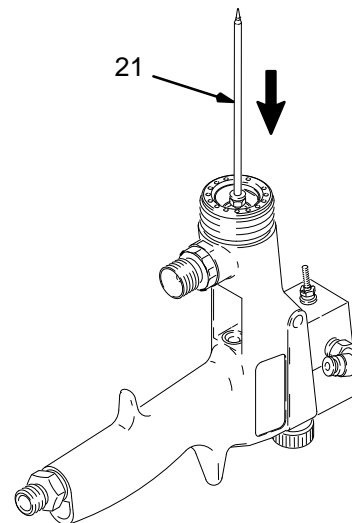
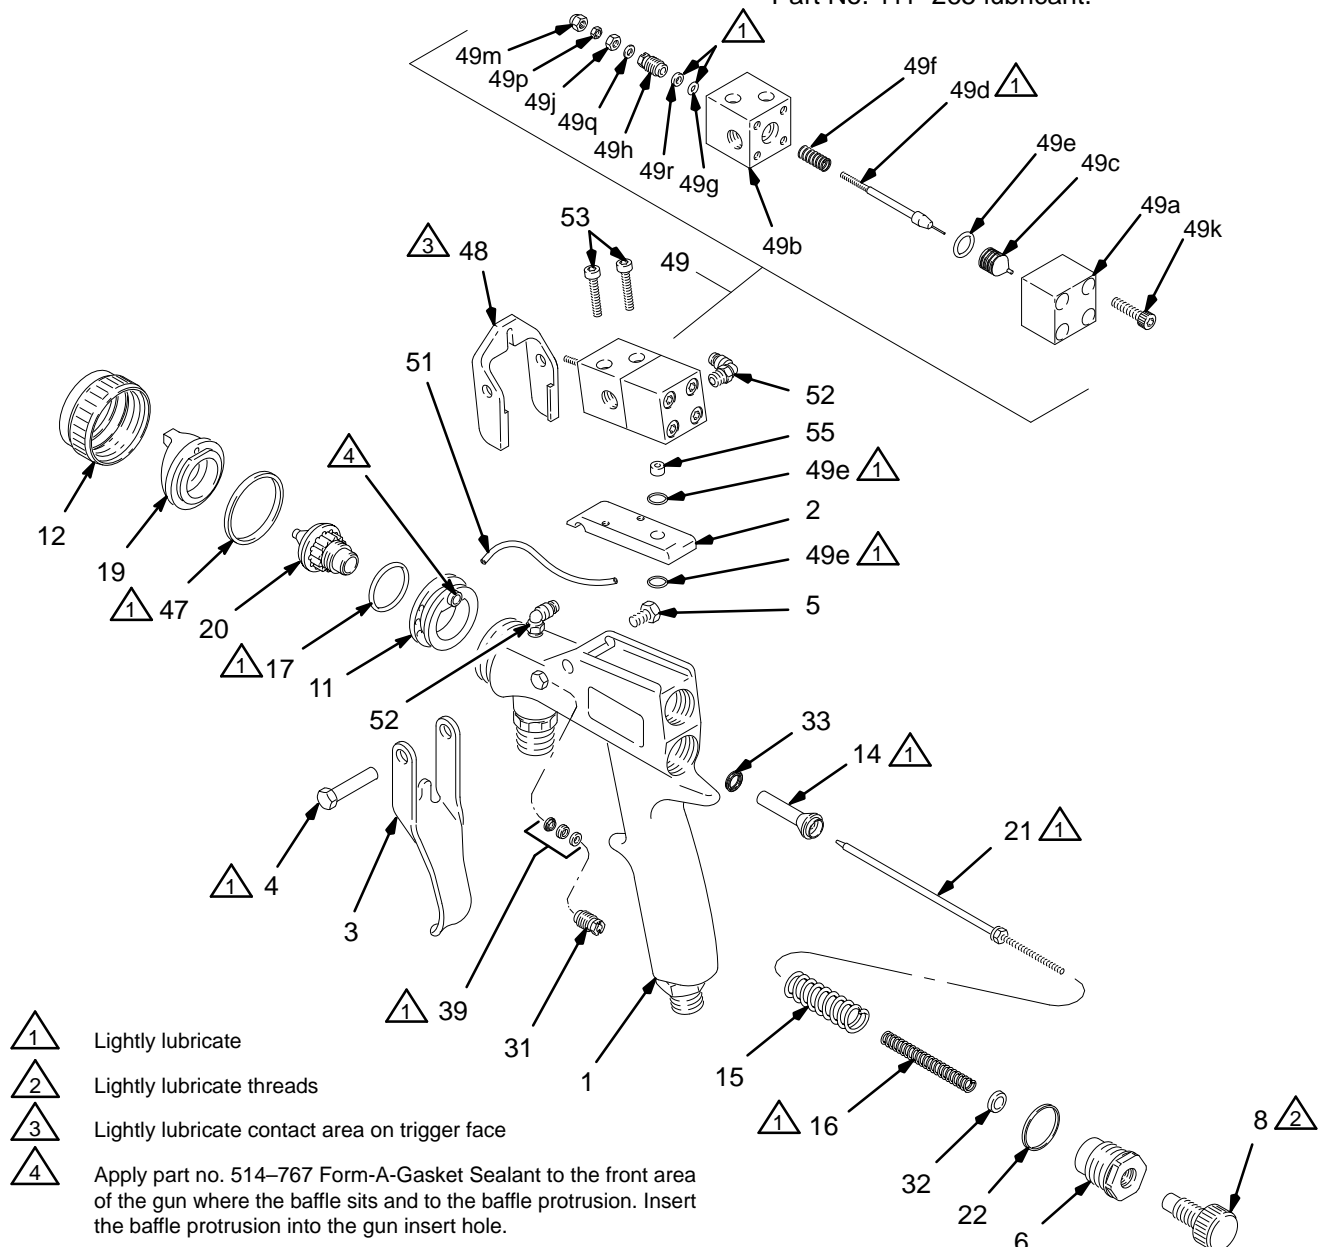

**Fig. 31** 02762
Fig. 34
3. Remove the nozzle seal (17). See Fig. 34.
4. Remove the fluid adjustment knob (8) and spring (16).
5. Pull the fluid needle (21) out the back of the gun.
7. Remove the fluid adjustment nut (6), spring (15), and air valve (14).
8. Insert a thin-blade screw driver (A) through the back of the gun and into the packing adjustment nut (31) and remove the screw. See Fig. 31.
11. Remove and disassemble the activator valve (49). See Fig. 34. Use the threaded end of the activator needle (49d) to push out the needle packings (49g and 49r). Do not bend the end of the needle.
13. Check the baffle (11) for damage. If it is damaged, carefully pry it off with a screwdriver and replace it. Apply part no. 514-767 Form-A-Gasket Sealant to the front area of the gun where the baffle sits and to the baffle protrusion. Insert the baffle protrusion into the gun insert hole.
14. Lightly lubricate the parts indicated in Fig. 34 with Part No. 111-265 lubricant.
**NOTE:** See Fig. 34, page 19, for the parts that need to be lubricated.